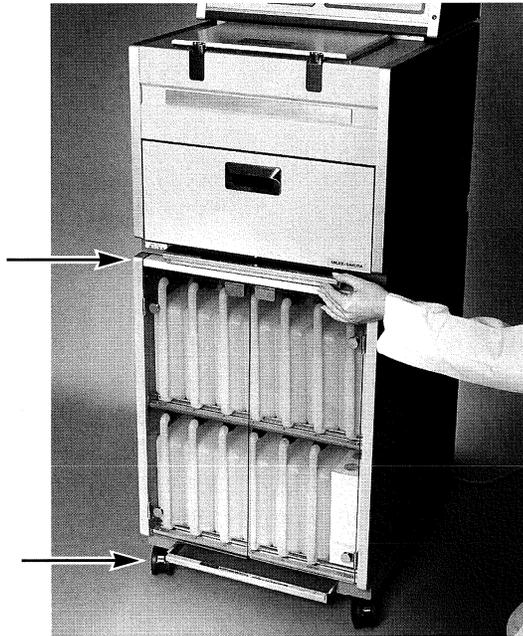

Figure 2-1
8. Install the two spill trays, one in the rails directly under the oven and the other in the rails under the reagent cabinet (Figure 2-1).